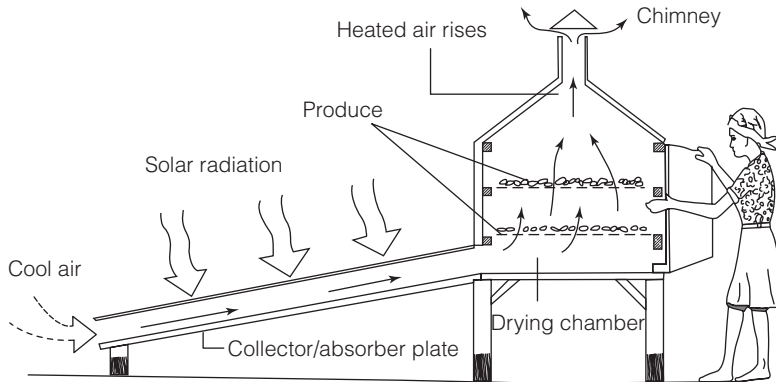

Figure 2.13 Indirect solar drier
- Indirect solar driers have a flat plate collector and a separate drying chamber that allow efficient use of solar energy and more control over the drying process. The solar collector heats air and, by convection, forces it through racks of drying products in the drying chamber (Figure 2.13).